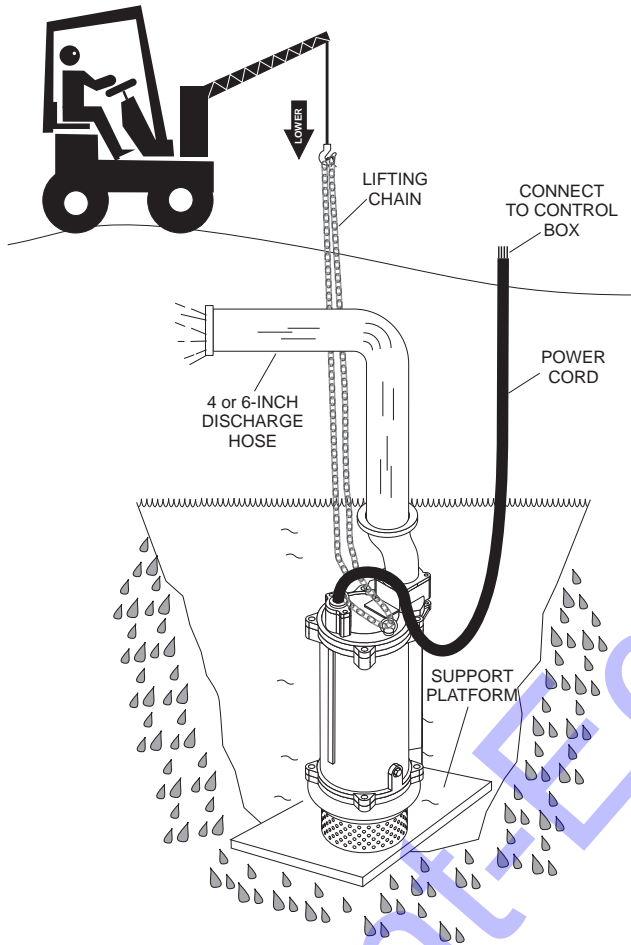

Figure 10. Placing the Submersible Pump (Correct Upright Position)
1. Attach a suitable lifting chain to the eye bolts (Figure 10) on the pump. Use a crane, or similar lifting device and lower the pump into place. For applications where there is an excessive amount of mud, grit or silt, the use of a support platform is desirable.